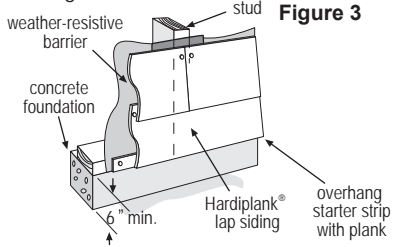

Figure 3
- Install James Hardie[®] products with a minimum 6" clearance to the finished grade on the exterior of the building or in accordance with local building codes if greater than 6" is required (fig. 3).